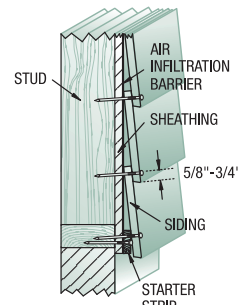

FIG. 4
- Although not recommended, where 24" o.c. vertical framing is used, wood-based sheathing is required. Follow product specific nailing pattern (See Fig 4) and nail to framing 24" o.c. with intermediate nailing 12 o.c. to sheathing.
- For **Standard Lap** products overlap successive courses at least 1". See Fig 4.
- Nail lap products 5/8" to 3/4" above the drip edge. Be sure nails penetrate through both pieces of siding and into studs. See Fig 4 & 5.